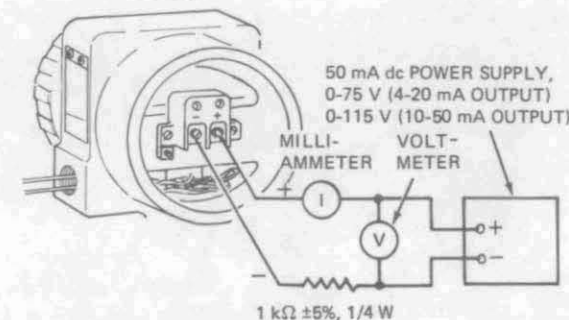

Figure 23
1. Disconnect blue and red leads at module. Connect test equipment as shown in Figure 23.